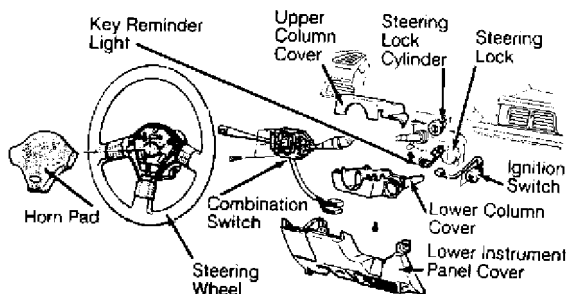

Fig. 3: Exploded View of Steering Column Switches (Typical)
3) On all models, disconnect combination switch electrical connectors. Remove retaining screws and combination switch(s). See Fig. 3. To install, reverse removal procedure.